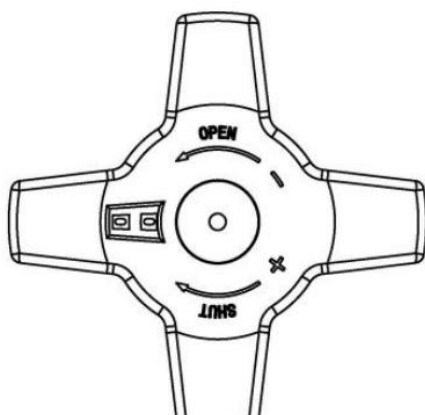

Figure 1
1. Fully close the valve handwheel (see Figure 1)